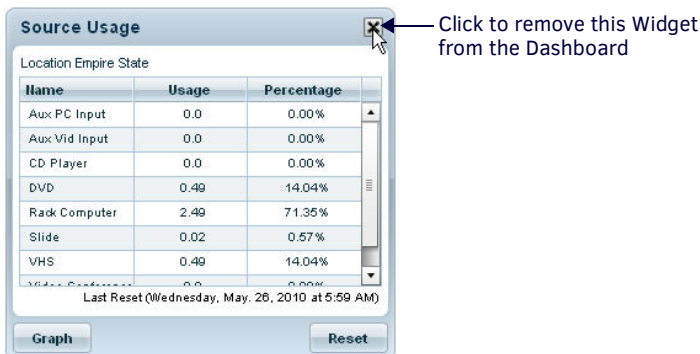

FIG. 83 Removing a Widget from the Dashboard
2. When the Dashboard is unlocked, each Widget features a "Close" (x) icon in the upper-right corner (FIG. 83):